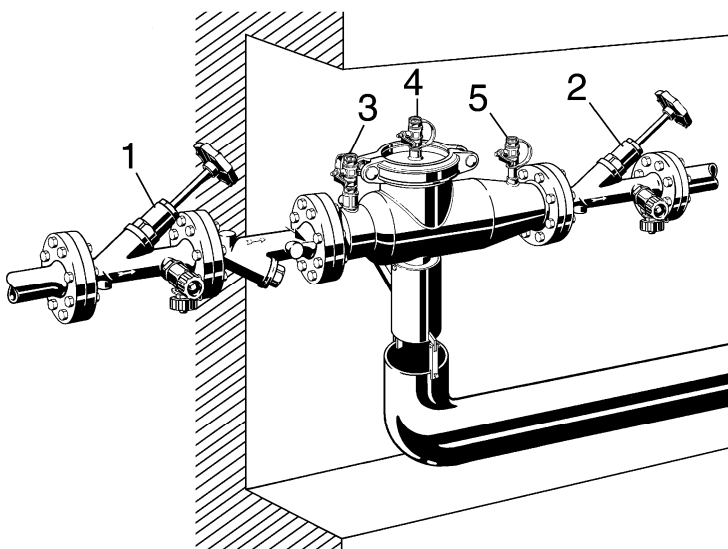

Figure 4:
6.1 Removal, installation and inspecting the anti-pollution check valve (refer to Figure 4)